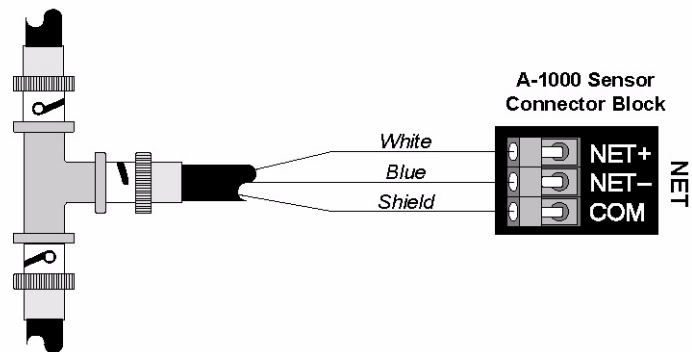

Fig 3-6 : Sensor NET Port Connections
- 5) Make the necessary connections to the Sensor's NET port as shown in Figure 3-6.